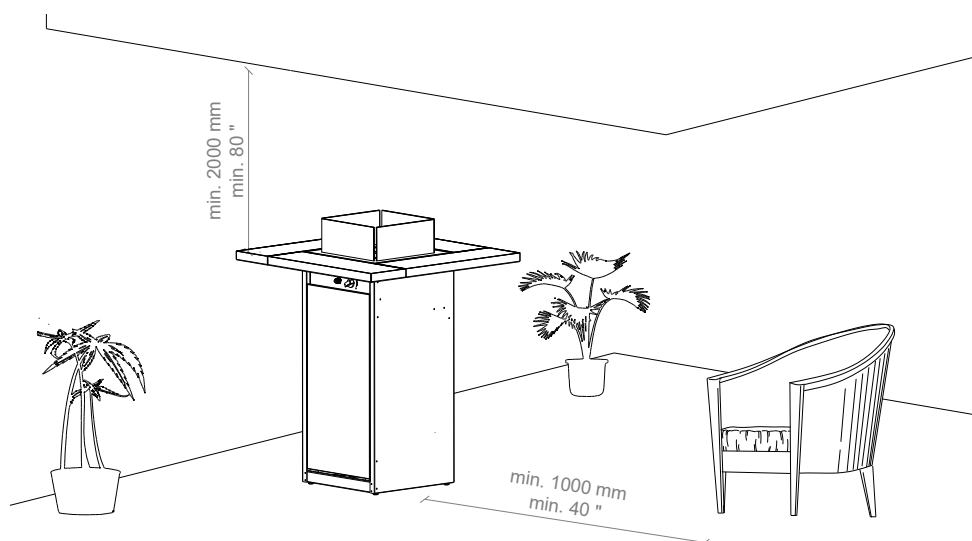

Fig. 1: Minimum distance to flammable materials
- This appliance must be kept away from flammable materials during use. Do not place any combustible materials within a distance of 1 m of Square Table High and 2 m over the appliance (Fig. 1).